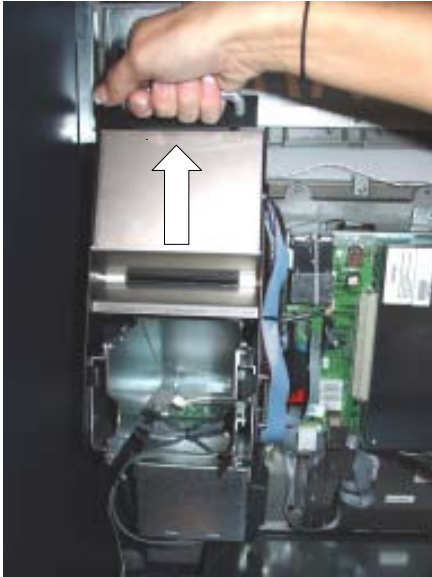

Figure 1. Lift handle.
2. Lift the printer handle and rotate the printer assembly down (Figures 1 and 2).